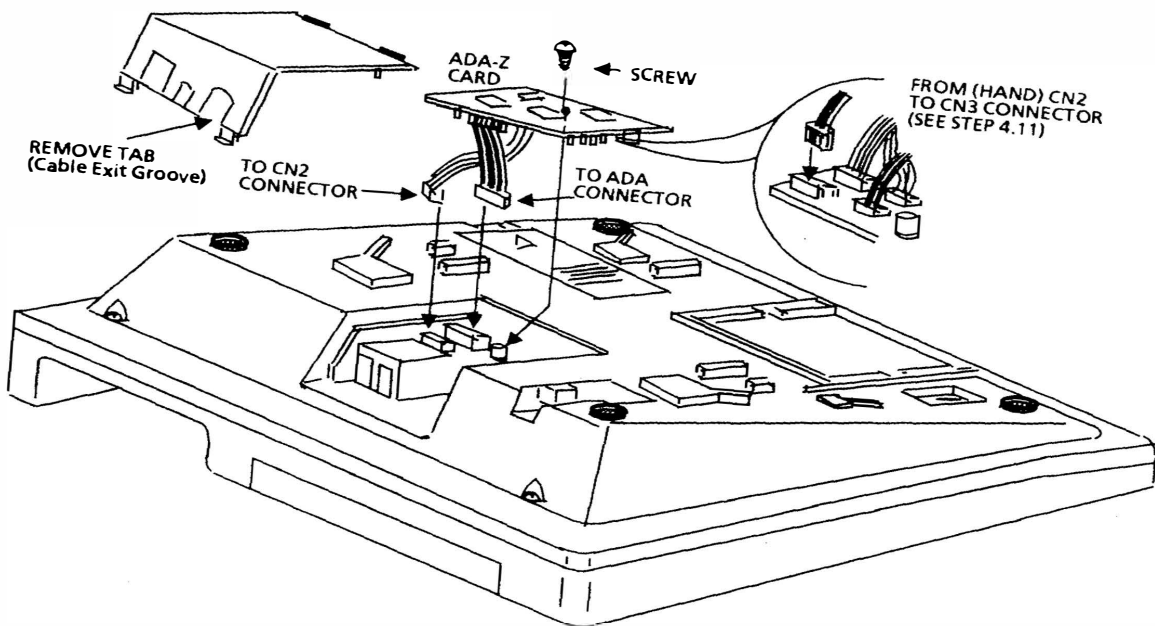

Figure 2 ADA-Z Unit Installation
- 4.12 Install the ADA-Z unit and secure it to the terminal housing with the screw provided, as shown in Figure 2.
- 4.13 Remove the plastic tongue on the access panel being installed (using a pair of pliers) to provide clearance for cables in the cable exit groove (see Figure 2).
- 4.14 Place the Jackset cable into the cable exit groove (Figure 2) making certain that all wires are inside the terminal housing. Install the access panel.